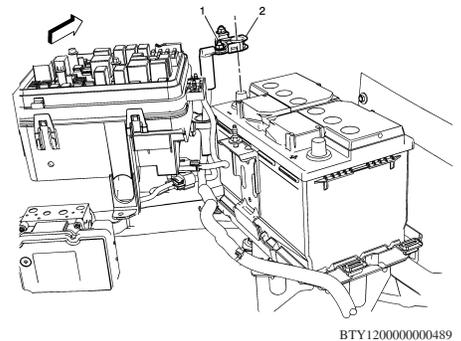

Fig. 1 Battery ground cable disconnection
4. Loosen battery ground cable terminal nut (1), **Fig. 1**.
5. Disconnect battery ground cable (2) from battery, **Fig. 1**.
7. Connect battery ground cable (2) to battery, **Fig. 1**. **Torque** cable terminal nut to 89 inch lbs.